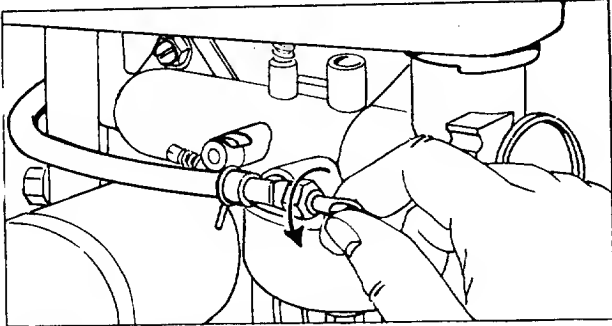

FIGURE 13. FUEL SHUT-OFF VALVE
Step 1. Be sure the fuel shut-off valve is open. See figure 13.